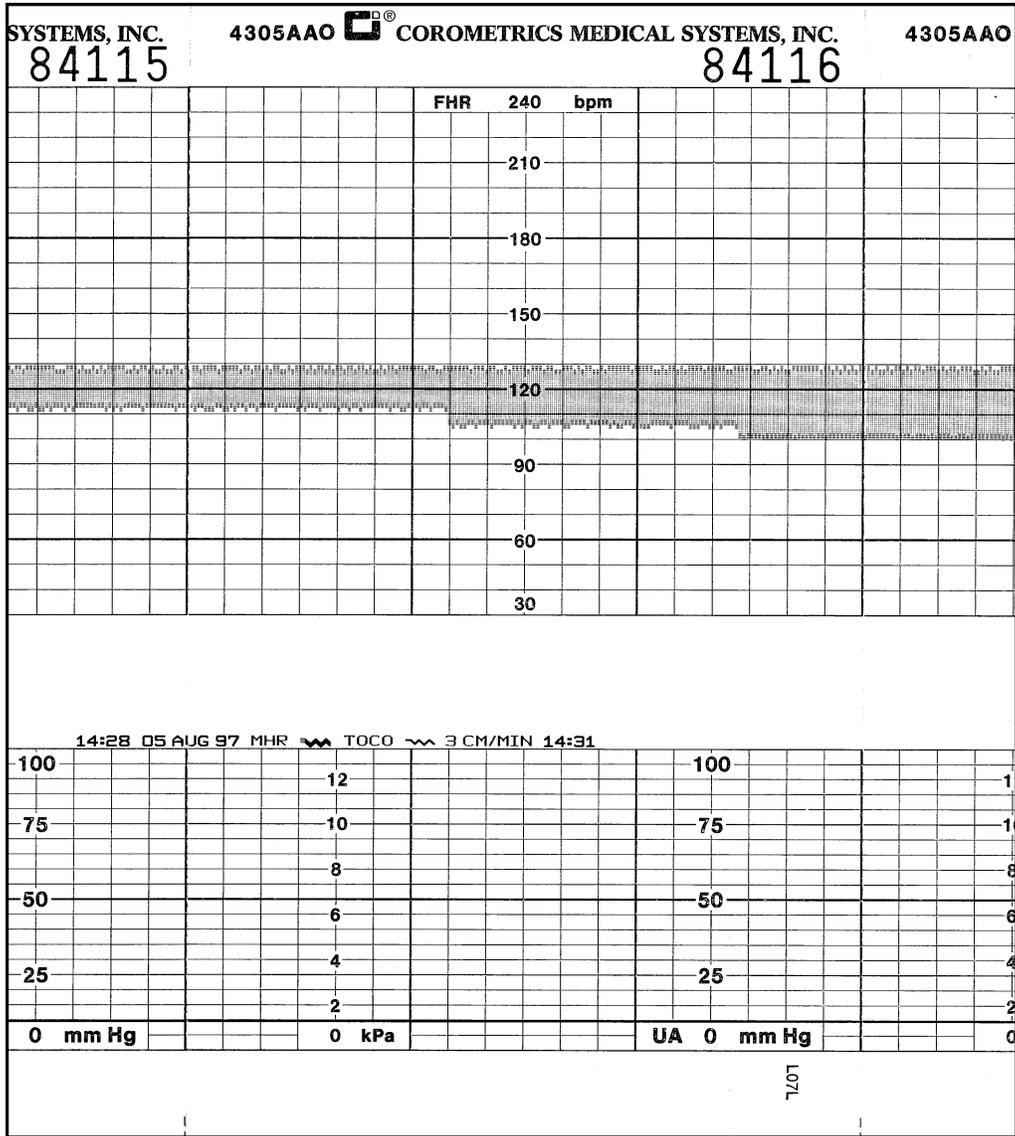

Figure 6-3. MECG Oscillation
- The recorder prints an oscillation of 15 BPM between 115 and 130 BPM on the top grid of the strip chart paper. (Refer to Figure 6-3.)
14. Repeat step 13 for rate values of  $\Delta 22$  and  $\Delta 27$ . The results should be the same except that the MHR value oscillates by either 22 or 27 BPM and the recorder prints an oscillation of 22 or 27 BPM. The top value is always at approximately 130 BPM. (Refer to Figure 6-3.)